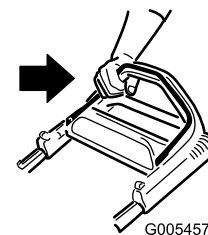

Figure 12
1. Hold the blade control bar against the handle (Figure 12).